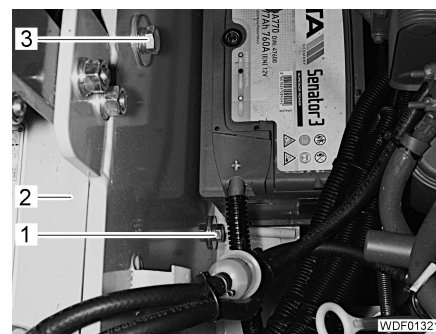

Fig. 96 Fuel tank attachment
- Mark the position of the fuel tank (Fig. 96,2) on the rear carriage.
- Unscrew the 4 screws (Fig. 96,1).
- Screw in and tighten the screws (Fig. 96,1) with spring lock washers and disks.